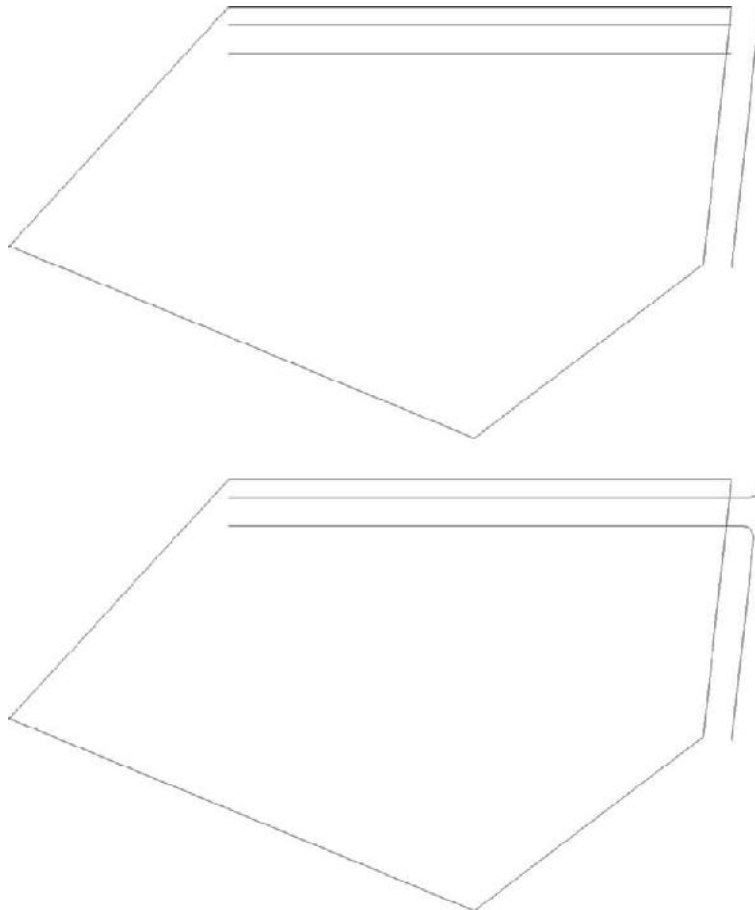

FIGURE 13.7: Offset property lines (top) and the completed intersection of the driveway and access road (bottom)
4. Offset the rightmost property line 8' (2.5 m) to the right (see the top of Figure 13.7) to show the limits of the access road.
12. Fillet the two corners where the driveway meets the road by using a 3' (1 m) radius (see the bottom of Figure 13.7).